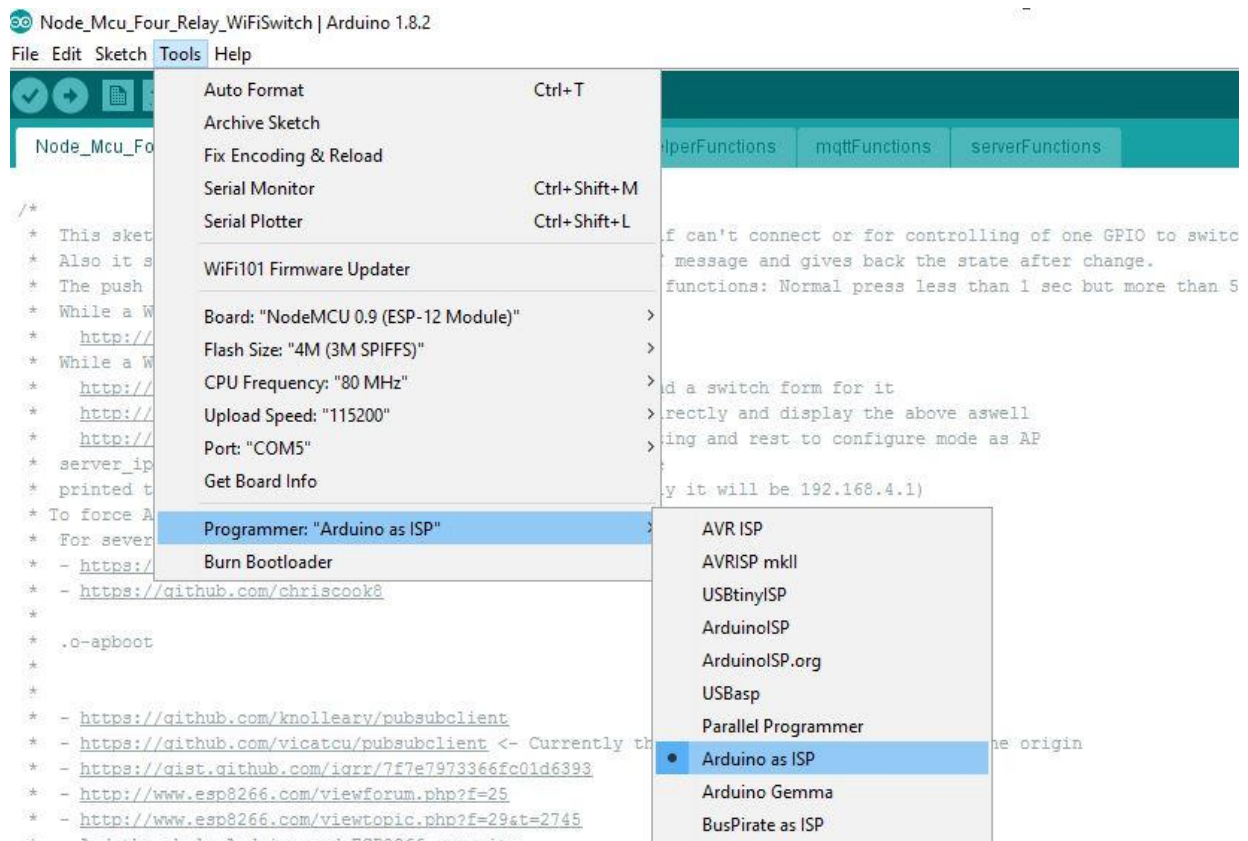

Figure 10: IDE Selection
4. Click on Tools Tab, move mouse pointer on "Board: xxxxxxxxxx" and click on "NodeMCU0.9 (ESP-12 Module)" as shown in figure 10.